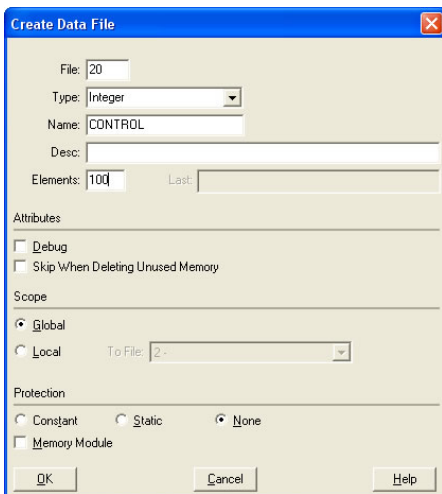

Figure 116: Creating a Control File
a) Right click Data Files and select New... The "Create Data File" dialog box appears (refer to Figure 116).